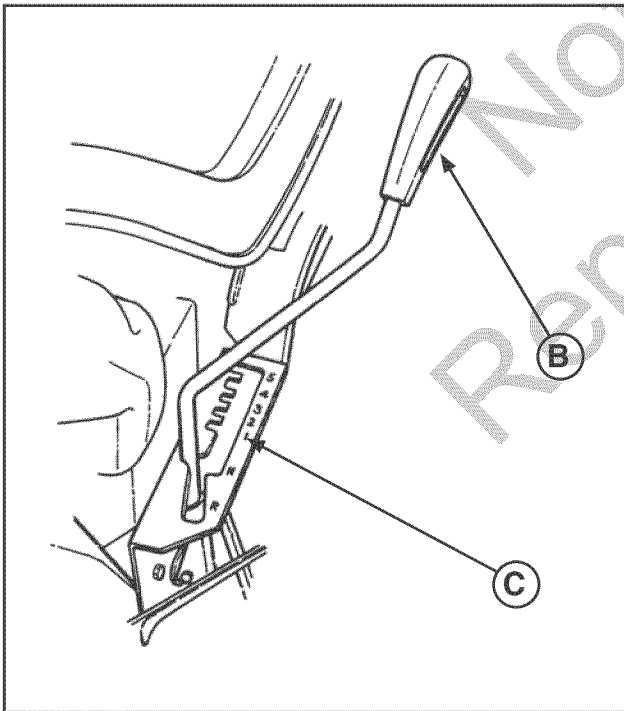

FIGURE 12
2. Place the transmission shift lever (B, Figure 12) into the first forward speed notch (C).